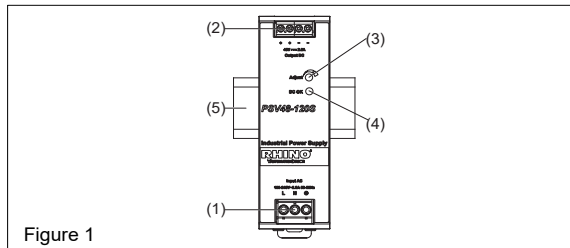
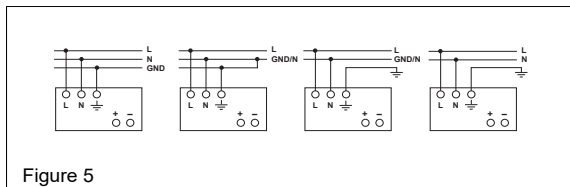

Figure 1
Figure 5
### 2. Device description (Fig. 1)
#### 5.1. Input connection (Fig. 1, Fig. 5)
Use L, N and GND connections of input terminal connector (see Fig. 1 (1)) to establish the 100-240 VAC connection. Typical connection methods are shown in Figure 5.